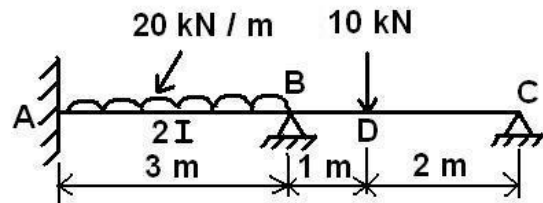

Fig. 6
- (b)** Analyze the beam as shown in figure 6 using flexibility system approach. **11**